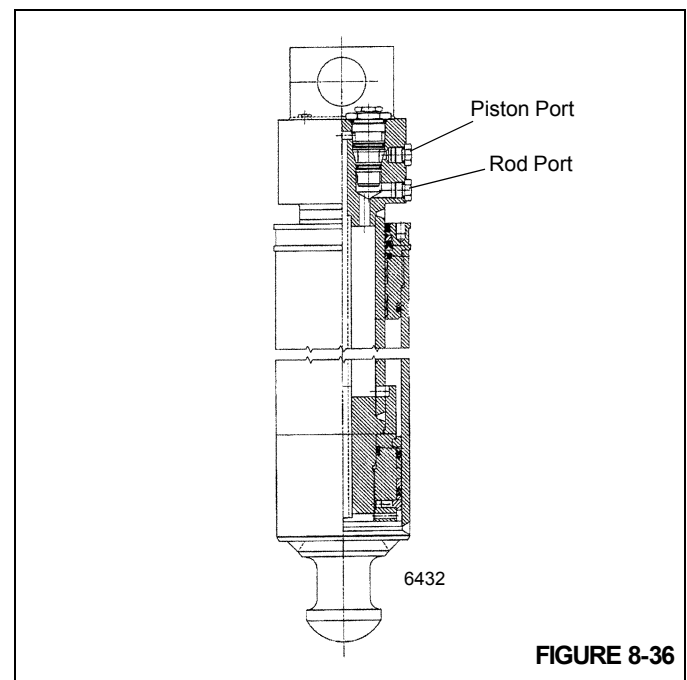

FIGURE 8-36
2. Remove the rod side cylinder hose from the suspected leaking jack cylinder (see Figure 8-36). Oil will flow until the cavity in the cylinder port block empties. Once the port block cavity empties, oil should stop flowing from the rod side port.
2. Remove the piston side cylinder hose from the suspected leaking jack cylinder (see Figure 8-36). Oil will flow until the cavity in the cylinder port block empties. Once the port block cavity empties, oil should stop flowing from the piston side port.